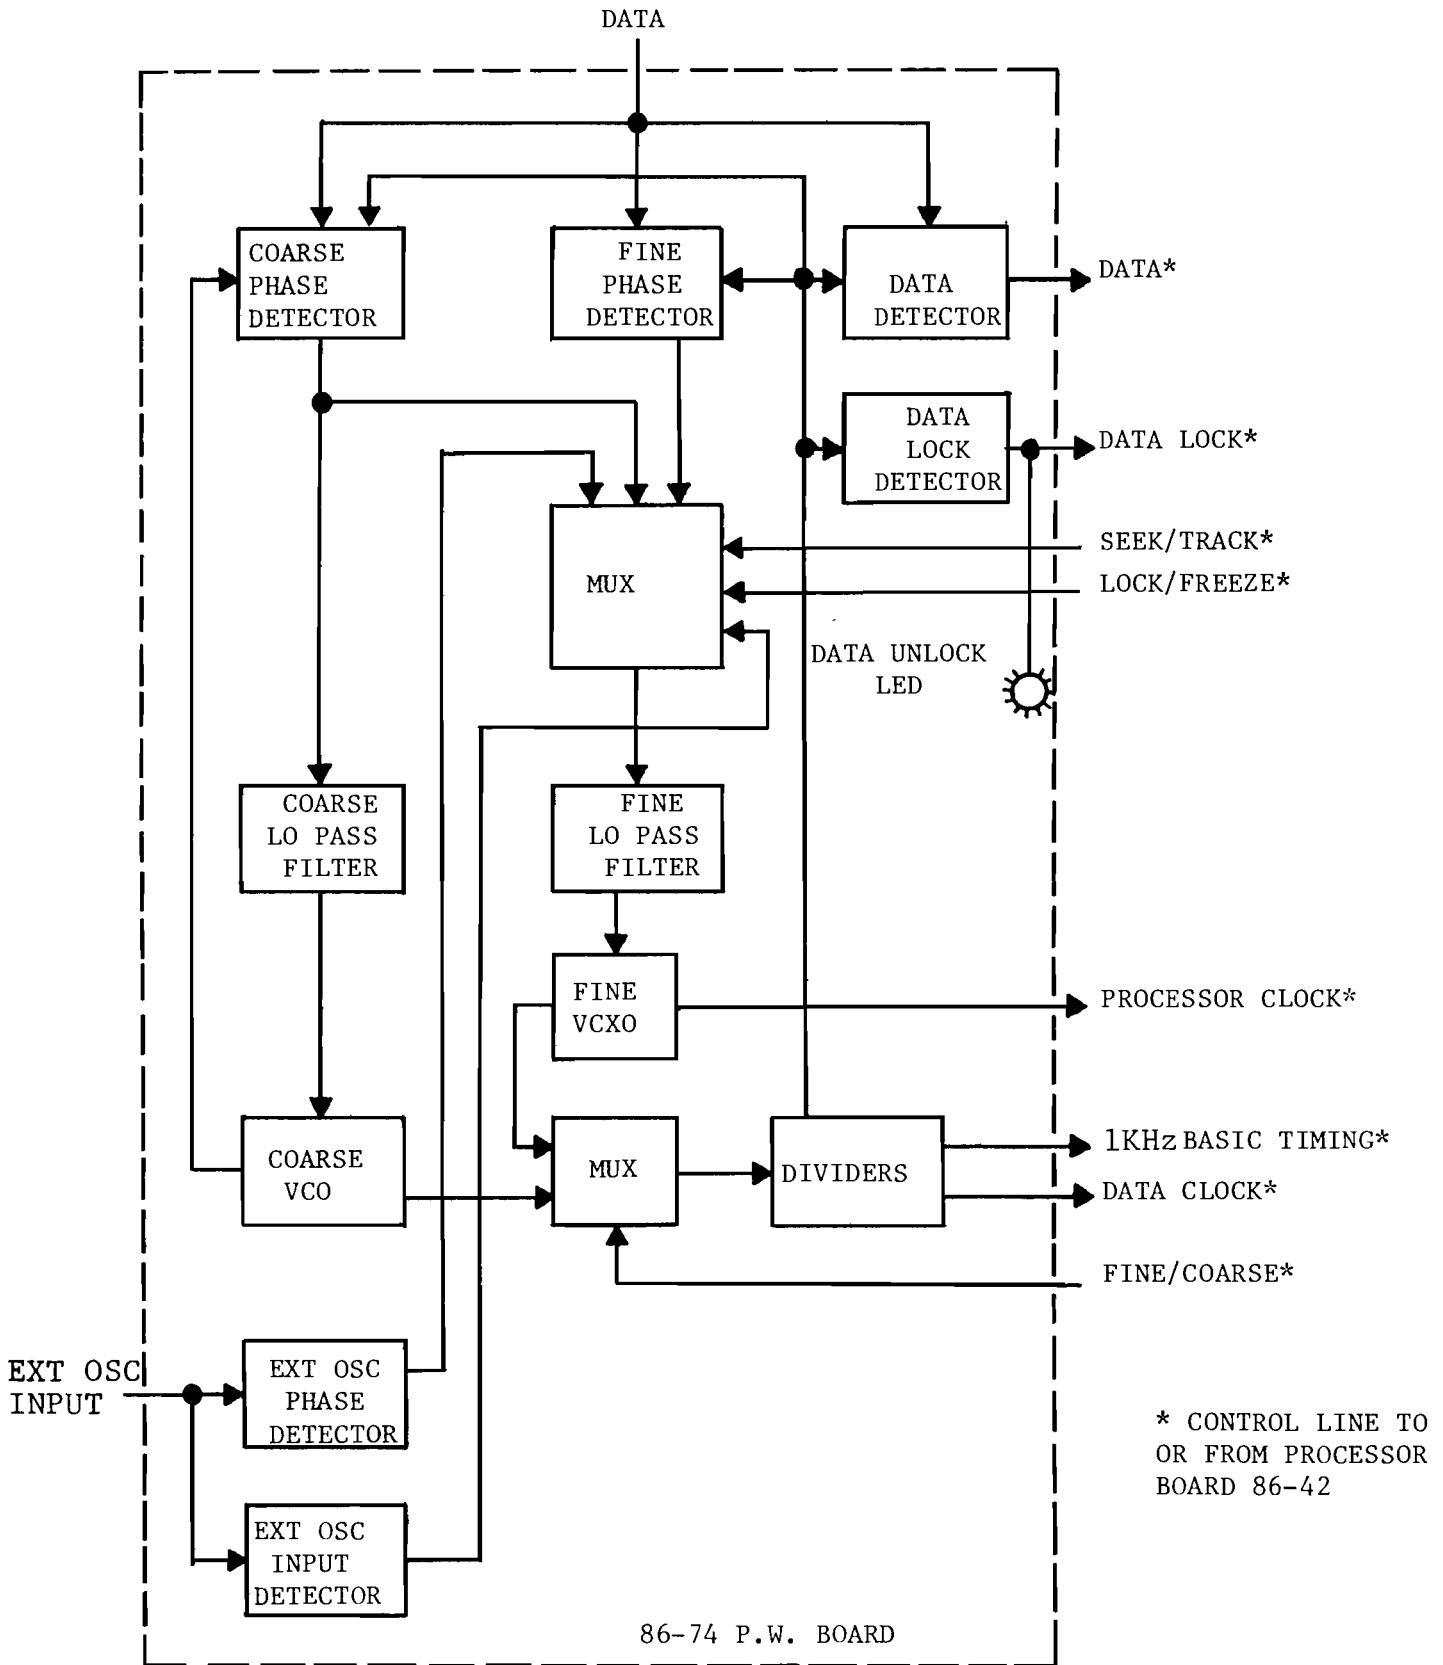
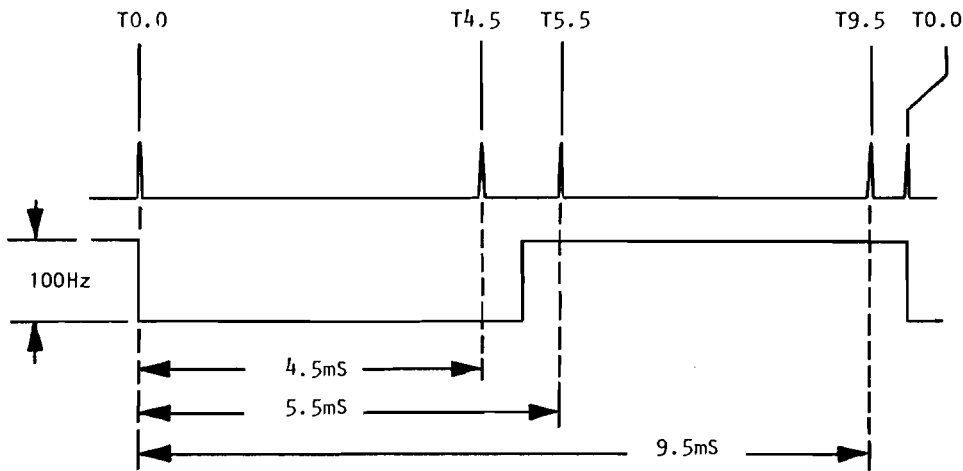

FIGURE 4-5 BASEBAND DATA PHASE LOCK BLOCK DIAGRAM, MODEL 468-DC
FIGURE 4-7 ANALOG BOARD TIMING
3. On re-acquiring satellite signal, the PLL seeks data lock using the coarse data phase detector. See FIGURE 4-5.
4-42 See FIGURE 4-5 the baseband Data Phase Lock block diagram and FIGURE 5-12 schematic. Also see FIGURE 4-7 for a timing diagram showing T0.0, T4.5, T5.5, T9.5.